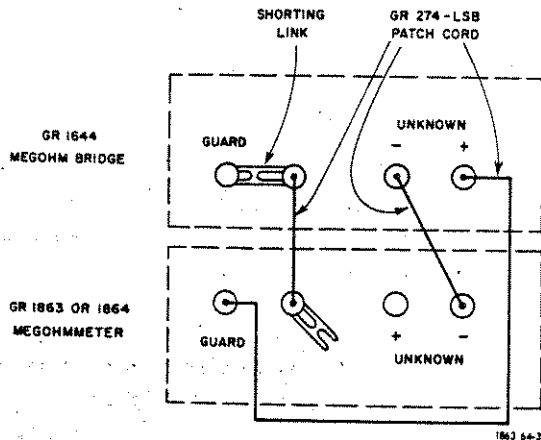

Figure 6-1. Connections for measuring standard resistors with the GR 1644 Megohm Bridge.
u. Connect the GR 1644 Megohm Bridge between the GUARD and -UNKNOWN terminals with two GR 274-LSB Single-Plug Patch Cords. Connect the two ground terminals together with a third patch cord (Figure 6-1). Leave the megohmmeter shorting link attached only to the ground terminal.